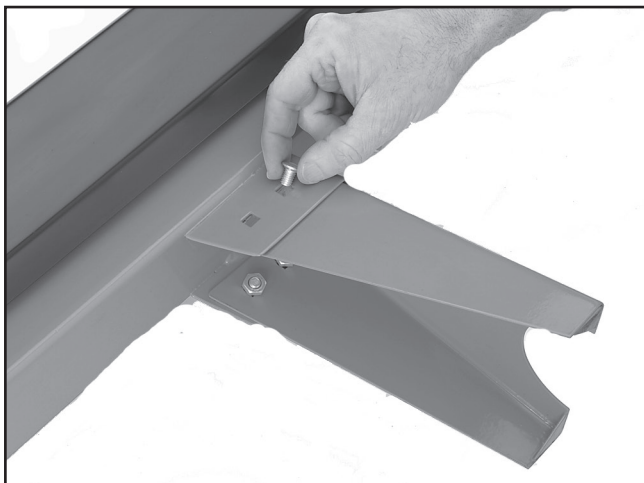

Figure 5. Attaching the support leg.
2. Use the carriage bolts and nuts to secure the support leg to the splitter body as shown in **Figure 5**.